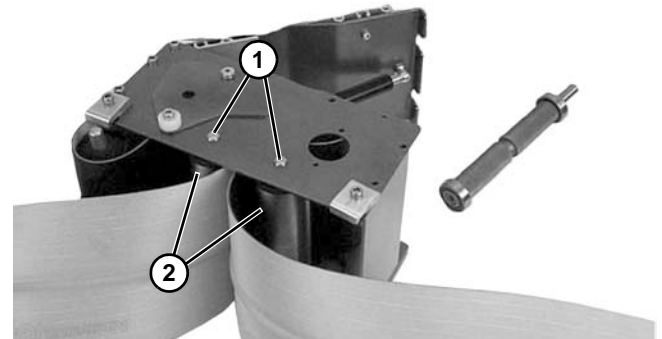

Figure 104
- b. For 5" (127 mm) or wider conveyor, depress both sides of each spring-loaded shaft (Figure 104, item 1). Remove pulleys (Figure 104, item 2).